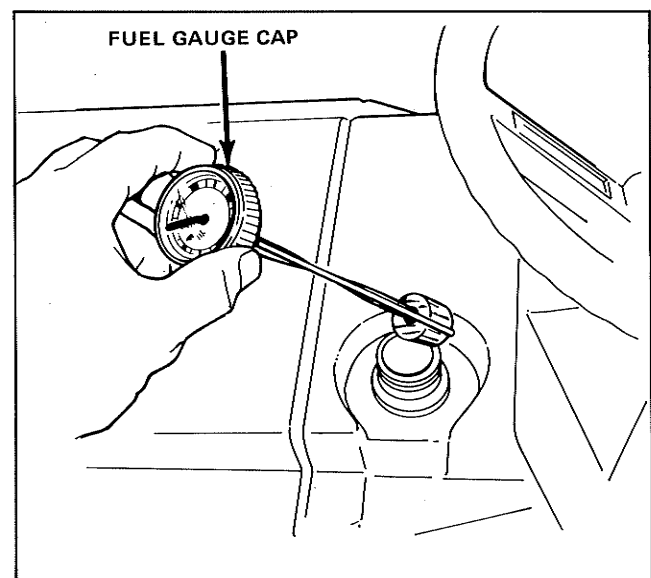

Figure 11. Removing Fuel Cap
- a. Remove fuel cap as shown in figure 11.